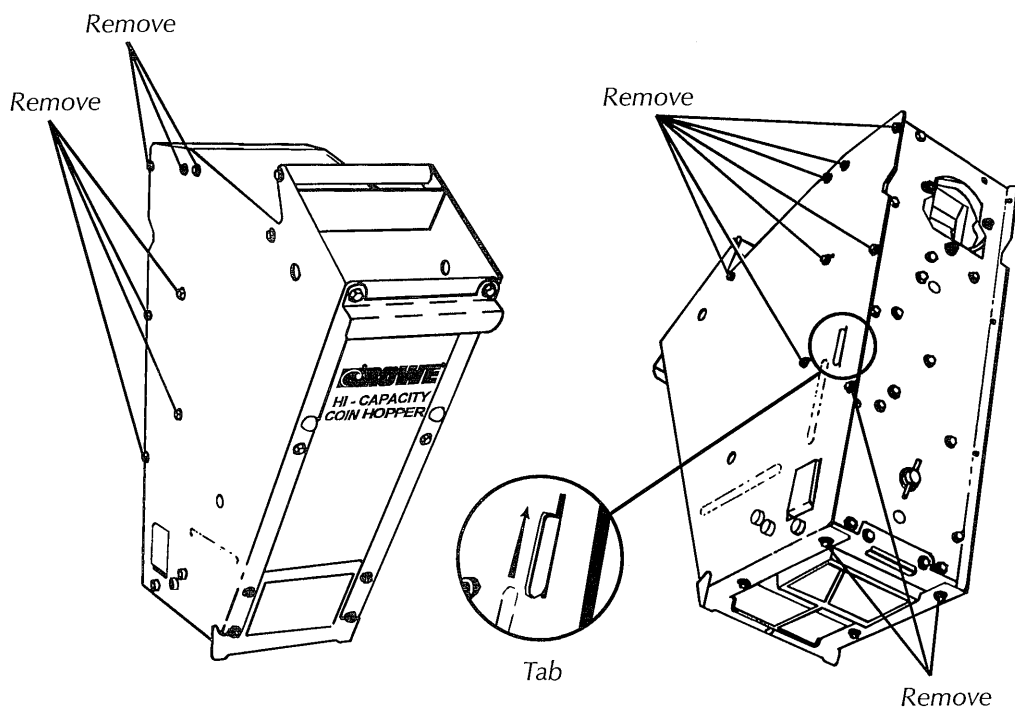

Figure 3-4B
2. Remove all the screws pointed out in *Figure 3-4B*, and lift the back chain plate assembly up so that the tab (enlarged below) can be pulled through the right hand side plate of the hopper assembly. Pull the chain plate assembly straight back out and you will now be able to access the coin path more easily for cleaning.